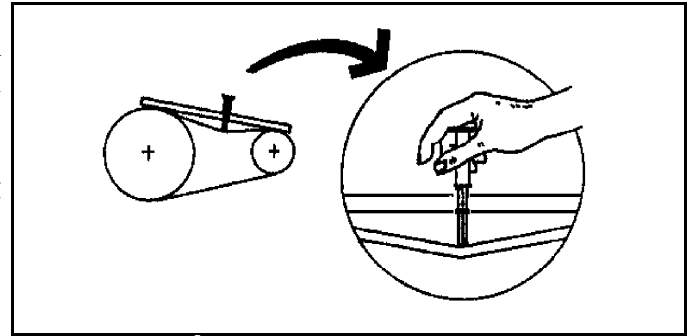

FIGURE 8 (MSSMA424AE)
Check belt tension (see FIGURE 8) when replacing and adjusting drive train components. A belt tension testing tool (Milnor® part number 30T001), straight edge, and Belt Tension Specification table is required when setting belt tension. Check tension for new belts according to the following schedule.
3. Place a straight edge along the top edge (pulley to pulley) of the belt to be tested. Depress the tension testing tool by sliding the cap against the middle of the belt span until the bottom edge of the lower O-ring aligns with the straight edge as shown in FIGURE 8.